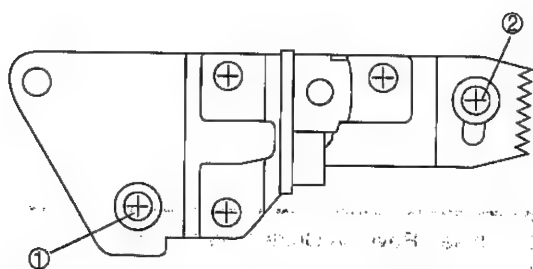

Figure 4-36.
Finally tighten the screws ① and ②. (First tighten the screw ①, and next the screw ②.) (Figure 4-36 ①②)